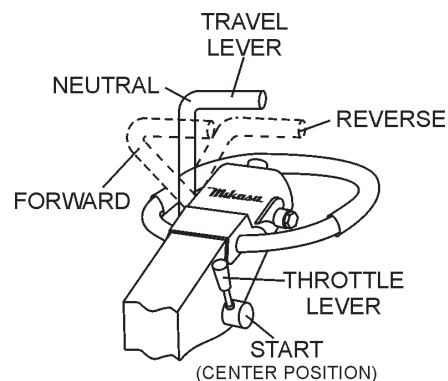

Figure 15. Travel/Throttle Lever (Start Positions)
1. Place the **throttle lever** (Figure 15) in the **START** position (center). Place the **travel lever** in the neutral position (center)